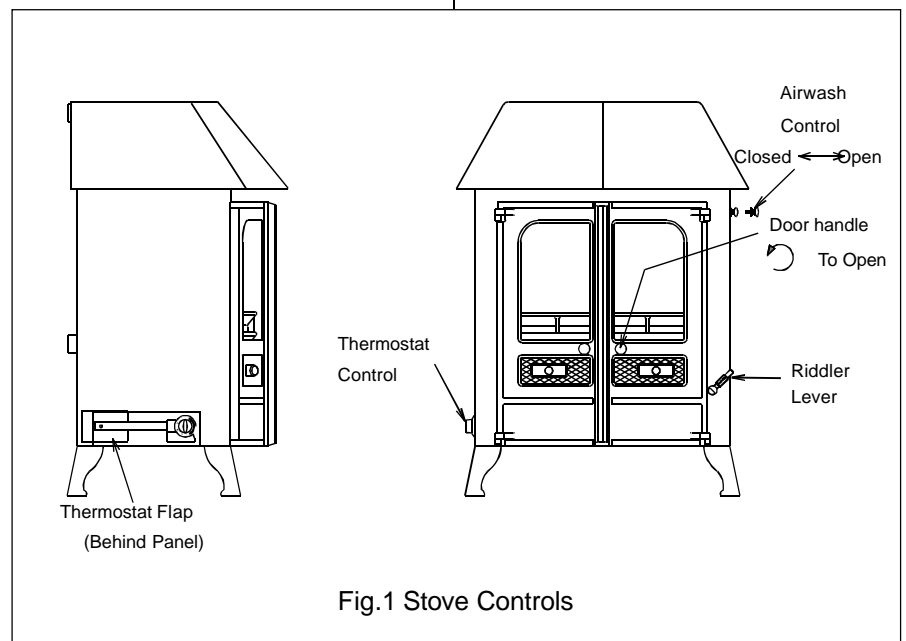

Fig.1 Stove Controls
Use the door opening and ashpan tool to open and close the doors. Turn the right-hand door knob anti-clockwise to open and clockwise to close (see Fig.1)
or fire lighters, and kindling on the grate and cover with approximately 2 inches of fuel. Turn the control knob to maximum, and open the airwash control fully (see Fig. 1). Light the paper or fire lighters. Close the doors until the fuel is well ignited then load with fuel and adjust the air controls to the required setting.
The rate of burning and hence the output is controlled by the control knob on the side of the fire and the airwash control (see Fig.1).
c) the thermostat flap is closed (at the bottom of the left hand side of the appliance, see Fig. 1.) and that it is not prevented from closing completely by a piece of ash,